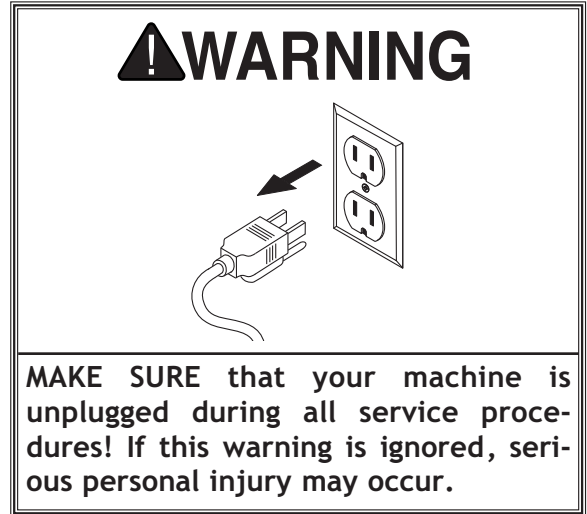

Figure 14. Fuse holder cap on the control panel.
2. Unthread the fuse holder cap from the control panel (see **Figure 14**) and remove it. The fuse will come out with it.